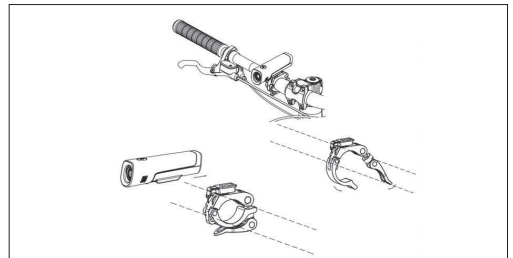

Figure 9-1
- Mount the front light on the handlebar, as shown in **Figure 9-1**.